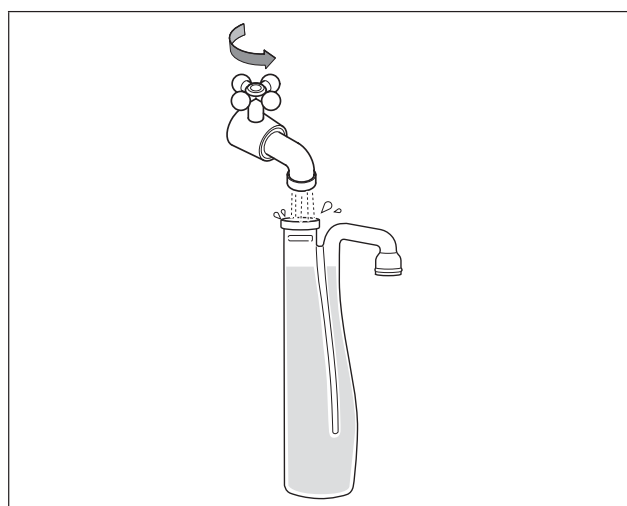

fig. 82 Filling the condensate trap with water
- Fill the condensate trap with water (fig. 82).